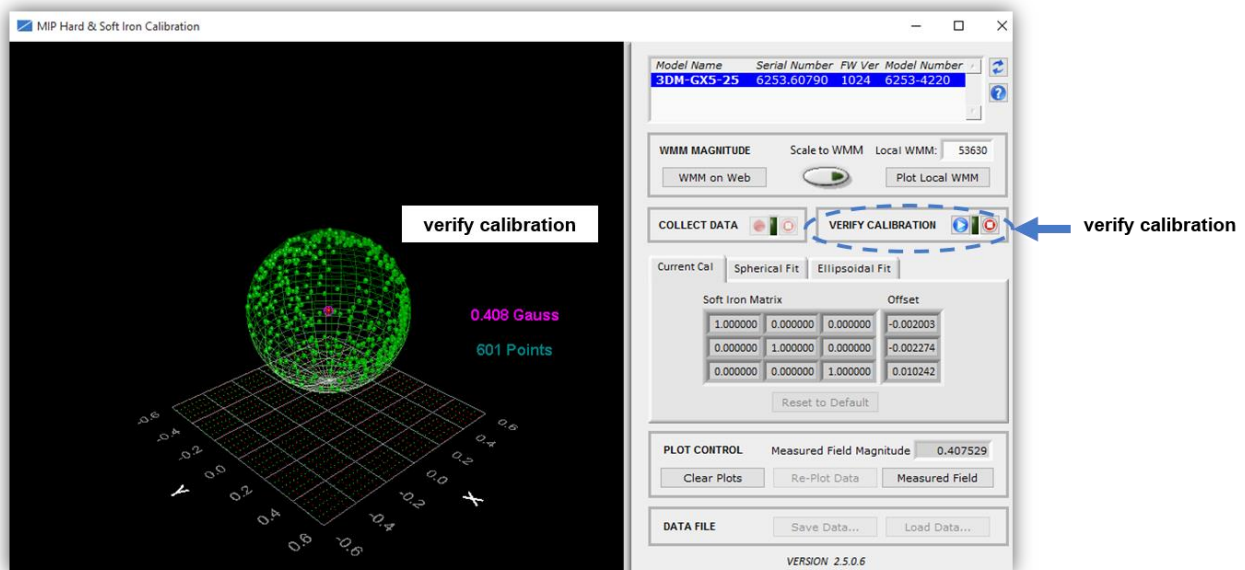

Figure 28 -Verify Calibration
9. Start a calibration verification by clicking the Start Streaming Data button next to Verify Calibration (*Figure 28 - Verify Calibration*). Rotate the device in all orientations in the same way as during calibration. When completed click the Stop Streaming Data button next to Verify Calibration. The resulting data points should be on or near the spherical grid. Hold the left mouse button and drag to rotate the image. The mouse wheel can be used to zoom in and out. If the fit is not close, the sensor may require re-calibration. If it is close, as shown, calibration and verification is complete.